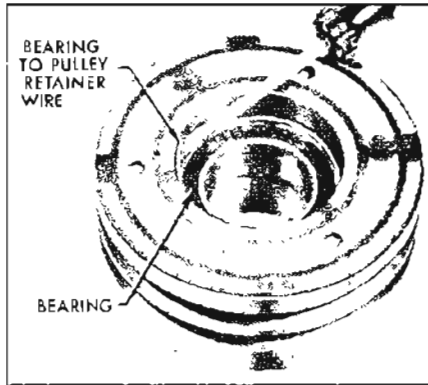

Figure 11-106—Removing Bearing to Pulley Retainer Wire
4. Remove bearing to pulley retainer wire with a small screwdriver. See Figure 11-106.